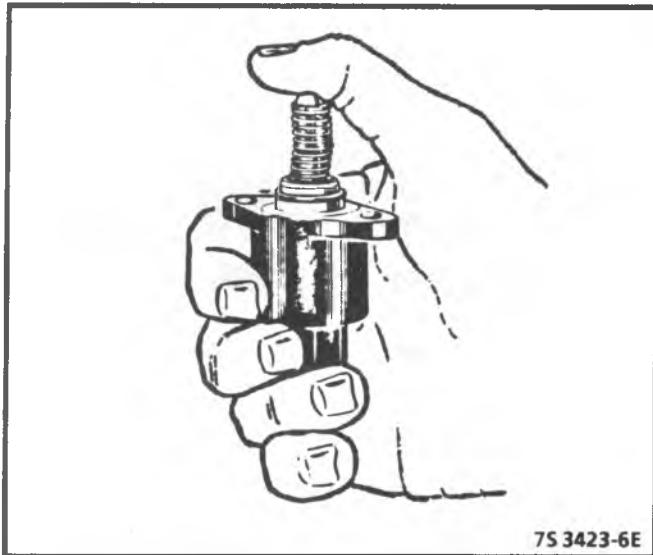

Figure 4-35 - Adjusting IAC Valve - TBI 700
- Exert firm pressure with a slight side-to-side movement, on valve pintle, to retract it (see Figure 4-35).